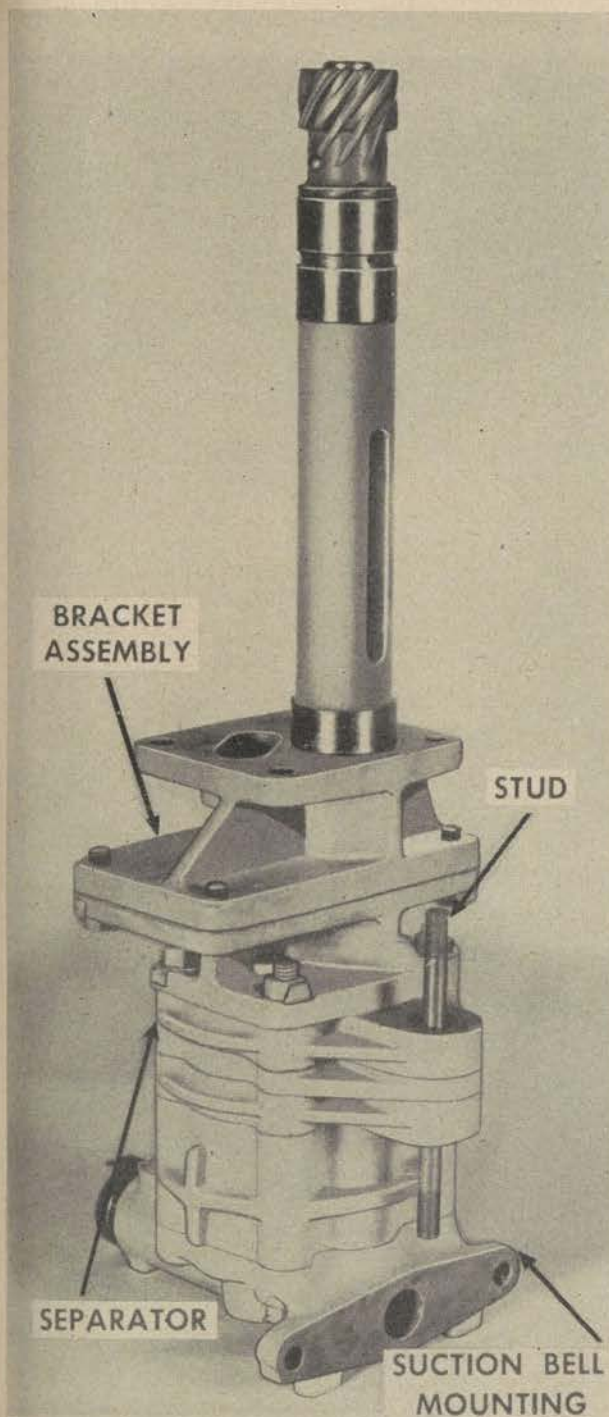
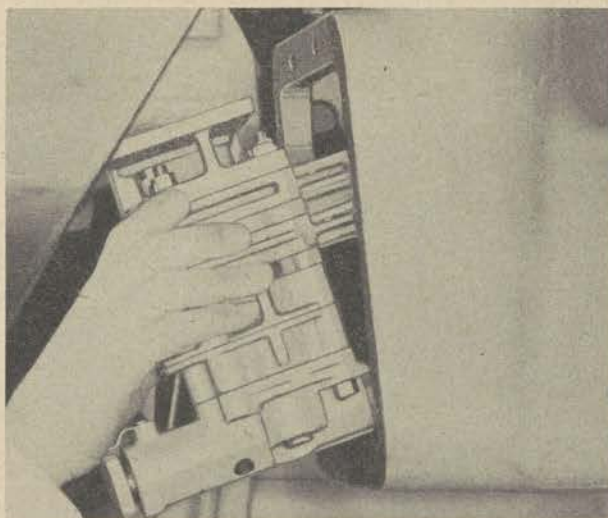

Figure 188. Step 1 in removal of oil pump.
Figure 189. Removing oil pump.
the oil pump suction bell mounting. (See fig. 188.)
6. Remove the capscrews holding the pump to the bracket assembly (fig. 188), lower the pump to the bottom of the oil pan to clear the upper end of the stud from the fitting on the rear auxiliary suction tube, and then remove the pump from the door on the right side of the oil pan. (See fig. 189.)